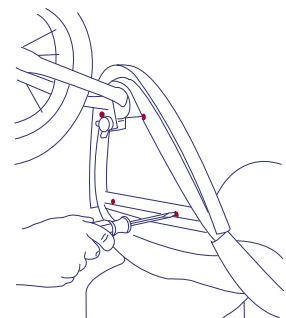

Figure 7b.
- The front fender is secured to the frame by the 4 screws provided. Line up the holes on the plastic fender with the holes on the frame to secure. See figure 7a. Line up the front fender and press onto the front frame assembly. Insert the 4 screws through the underside of the front frame assembly into the front fender's plastic tubes. Tighten the screws only until snug. See figure 7b.